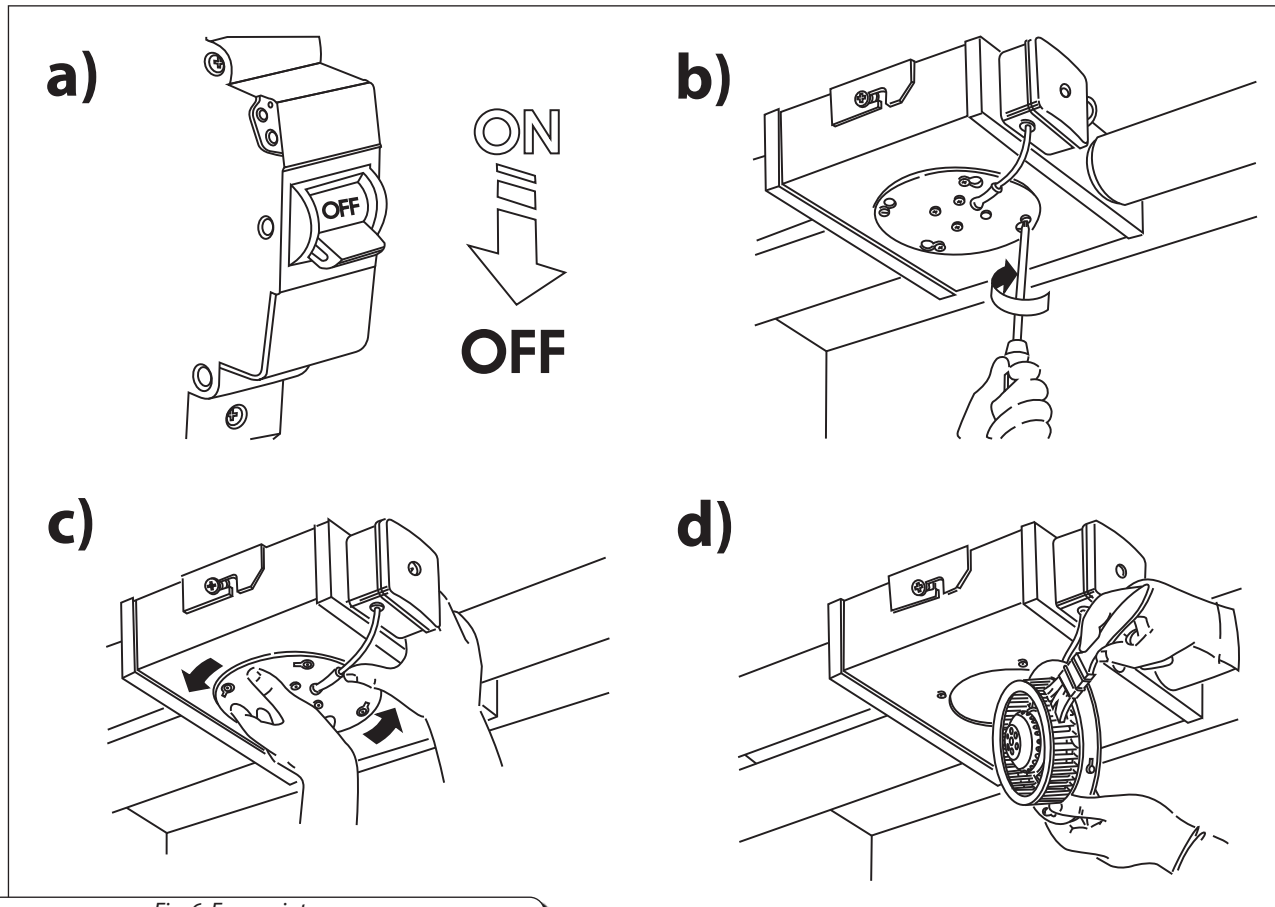

Fig. 6. Fan maintenance
- cut off power supply to the fan, fig. 6 a;
- loosen four screws, fig. 6 b;
- remove the flange with the turbine from the casing, fig. 6 c;
- clean the impeller blades using a dry brush or a vacuum cleaner, fig. 6 d;